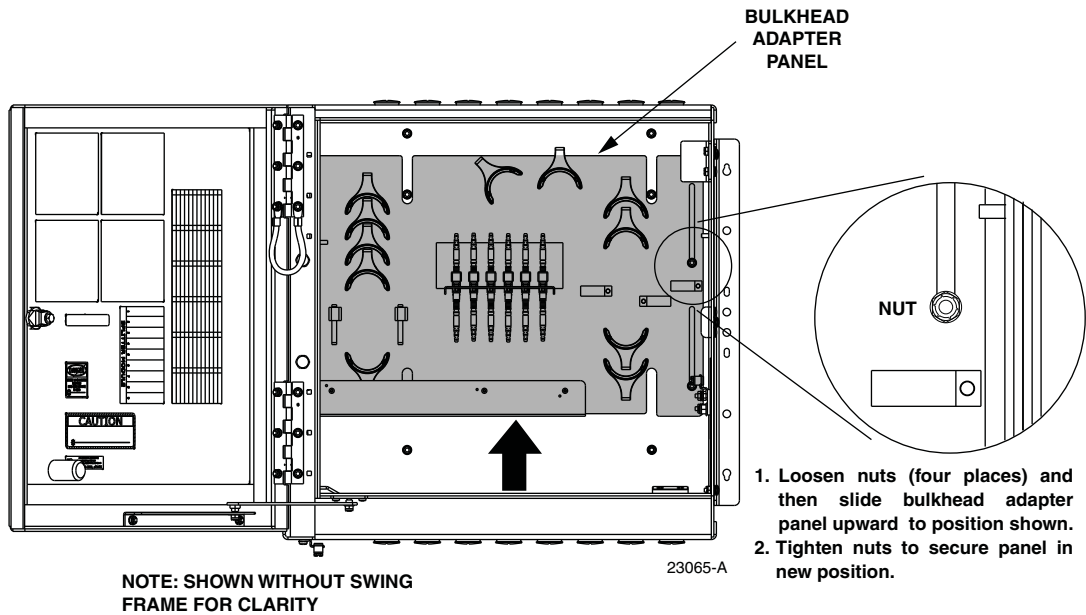

Figure 27. Reposition Bulkhead Adapter Panel
9. Loosen the four nuts that secure the bulkhead adapter panel to the back of the cabinet as shown in Figure 27.